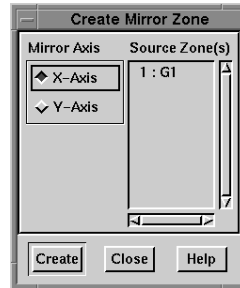

Figure 24-16. The Create Mirror Zone dialog for a 2-D image.
1. From the Data menu, choose Create Zone, then Mirror. The Create Mirror Zone dialog appears, as shown in Figure 24-16.